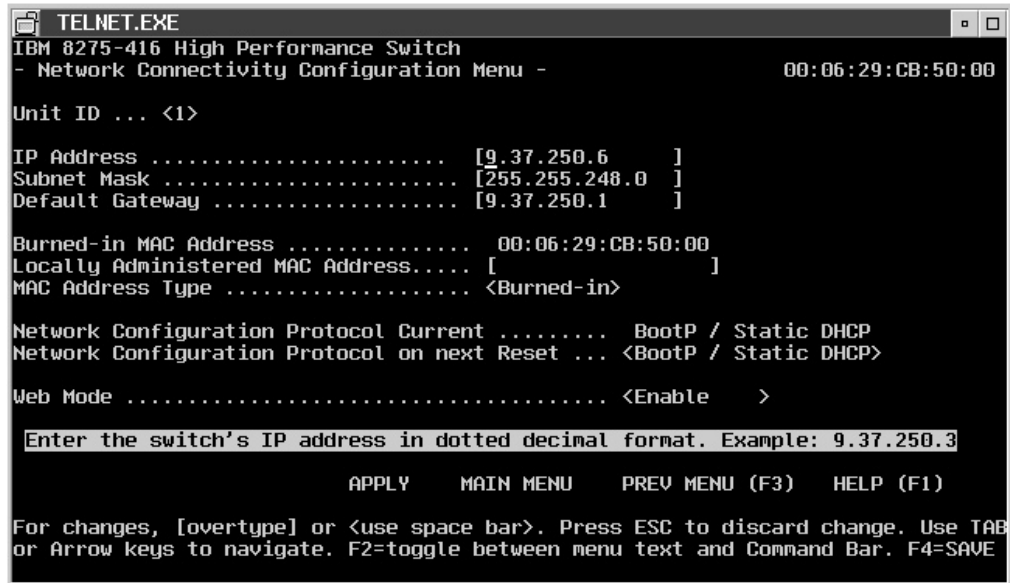

Figure 17. Network connection configuration
To configure the IP information, select **Management Menu** from the Main Menu, then select **Network Connectivity Configuration Menu** from the Management Menu. The Network Connectivity Configuration Menu appears as shown in Figure 17 on page 32.
2. On the Management Menu, select **Network Connectivity Configuration Menu**, then complete the network connection information shown in Figure 17 on page 32.